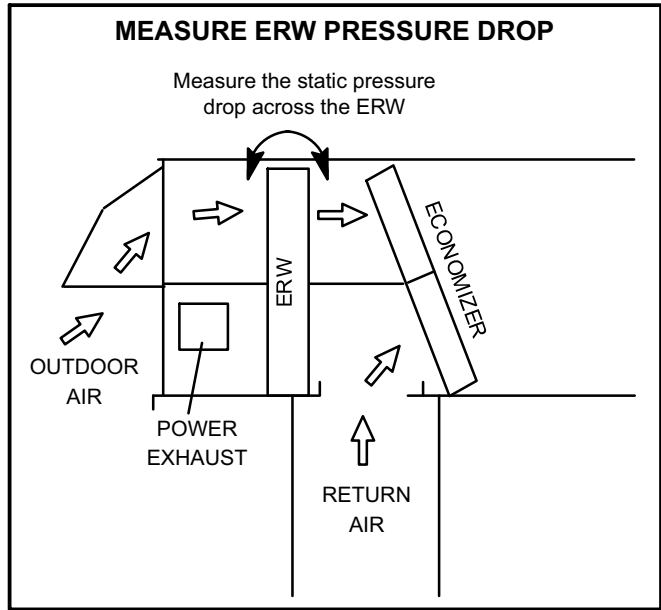

FIGURE 34
- 3- Measure the static pressure drop across the ERW. See figure 34.